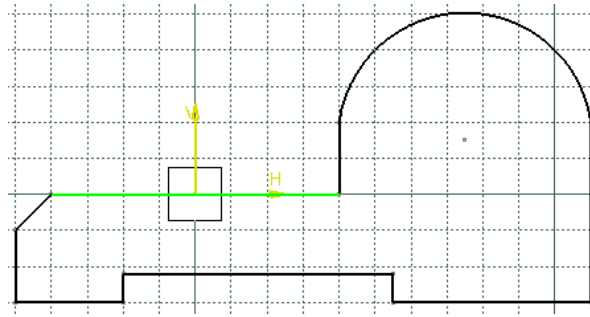

Figure 2-60 The completed outer loop of the sketch
22. Choose the **Fit All In** button from the **View** toolbar to fit the current sketch into the screen. The completed outer loop of the sketch is shown in Figure 2-60. Note that in this figure, the display of constraints and dimensions is turned off using the **Hide/Show** tool for clarity.